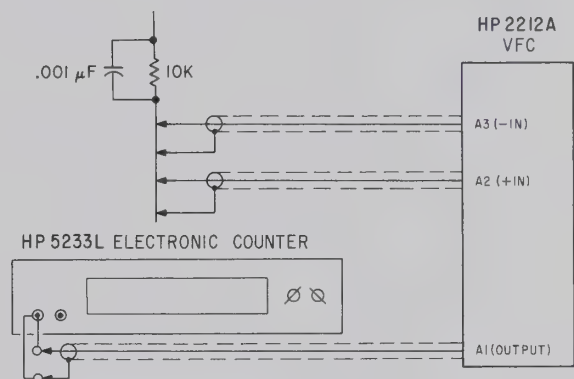

Figure 4-2. Setup for Preamplifier Zeroing
1. Connect setup as shown in Figure 4-2 and turn on all equipment. Note the time; the 2212A will require at least 1/2 hour warm-up in the Combining Case or 1-1/2 hour warm-up in free air.